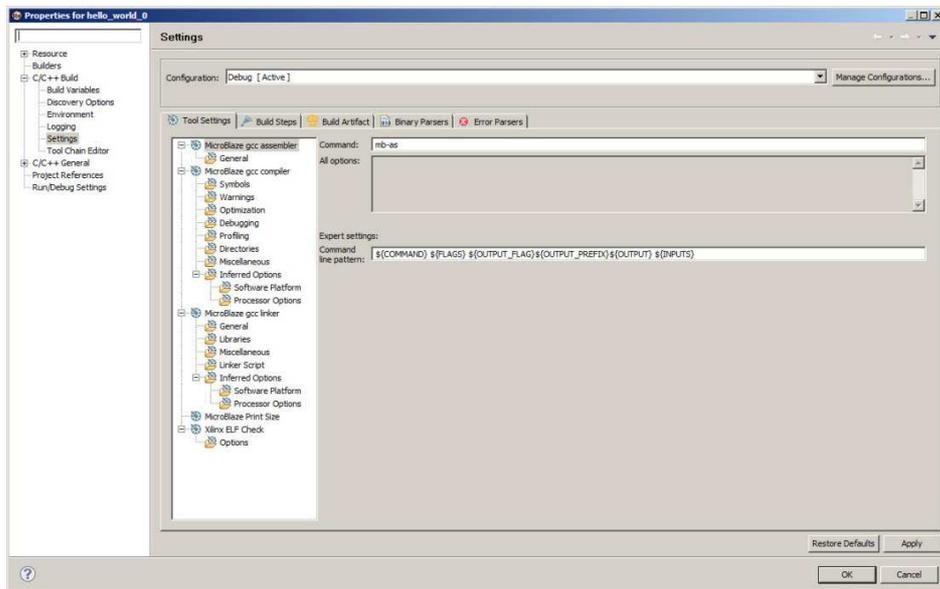

Figure 31. Properties for hello\_world\_0 (Step 10)
**Step 10:** Highlight the “hello\_world\_0” with your mouse and right click. This will show a new menu. Zoom on “C/C++ Build Setting”. This will produce a new screen “C Code Properties” as seen in Figure 31.